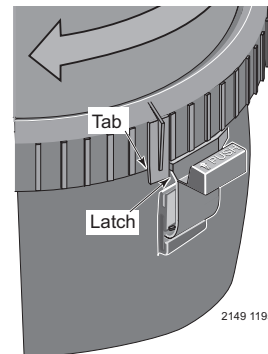

Figure 3 – Rotate Posi-Lok™ Ring until tab locks behind the safety latch.
1. Securely lock Posi-Lok™ ring in place by rotating ring CLOCKWISE until it “clicks” past the safety latch (see Figure 3). Stop turning as soon as the ring clicks past the latch. The ring may feel slightly loose, but it will tighten up when pump is on and filter is under pressure.
- d. Rotate the Posi-Lok™ clockwise until it locks behind the safety latch (see Figure 3).